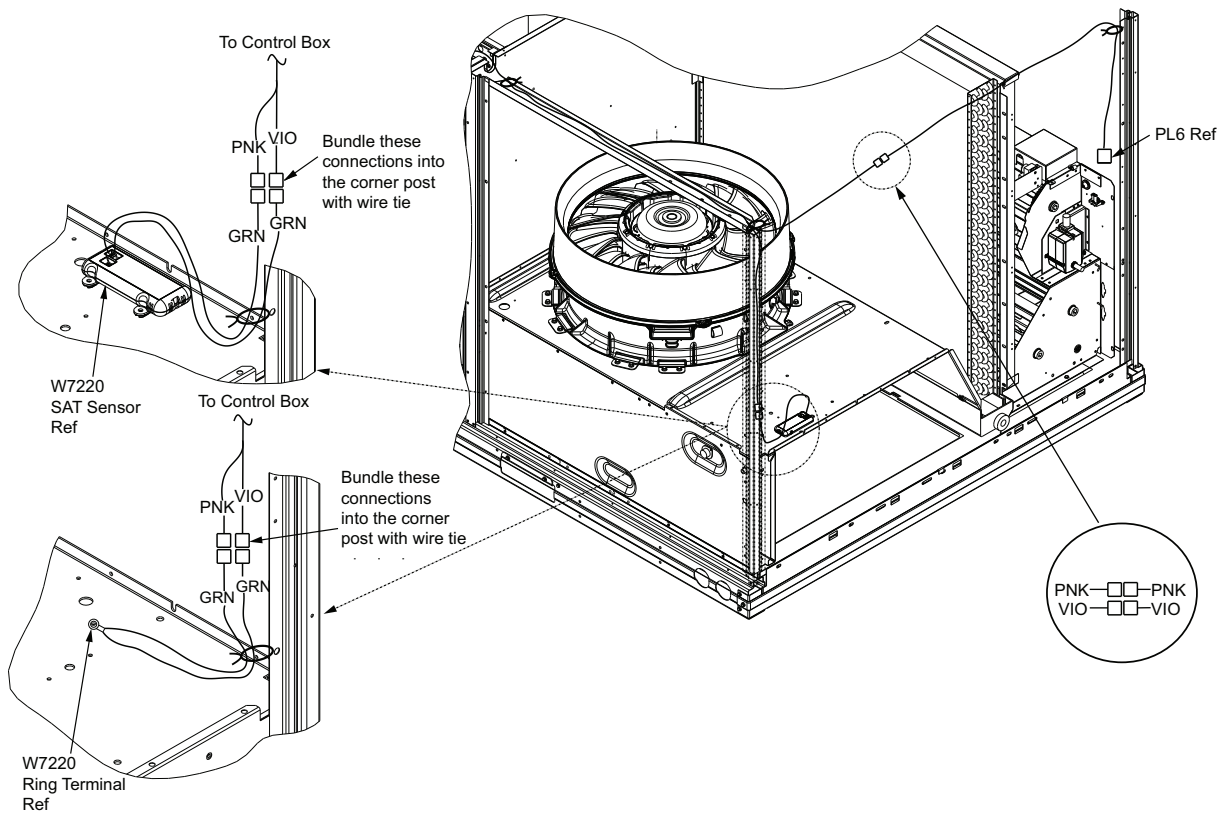
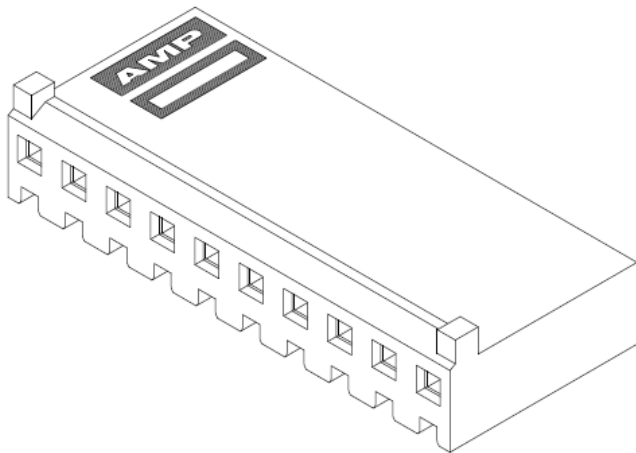

Fig. 17 — Supply Air Sensor Installation W7220 (Vane Axial Fan System)
Fig. 33 — 10-pin Inline Plug
Mount the supply air temperature sensor (provided) to the fan deck, near the right hand side corner post. (See Fig. 17.)
- Follow Steps 1 through 10 on page 4-5 and Fig. 17.
- This kit includes (2) wiring harness adapters that are used only if:
- The field-installed EconoMiSer X accessory has (2) 10-pin inline connector plugs connected to the controller. (See Fig. 33.)
- This kit contains these (2) harness adapter: